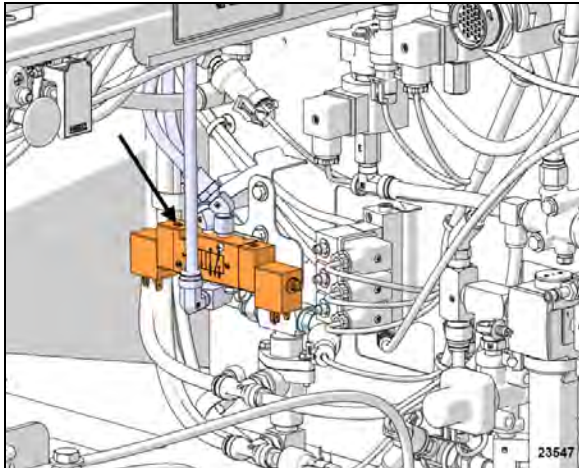

FIGURE 32: ELECTRO-PNEUMATIC VALVE & 70 PSI VALVE PROTECTION IN FRONT COMPARTMENT
- Pressing on the button located on top of the system valve in the front pneumatic compartment (this will bypass the electrical activation system as shown in FIGURE 32).